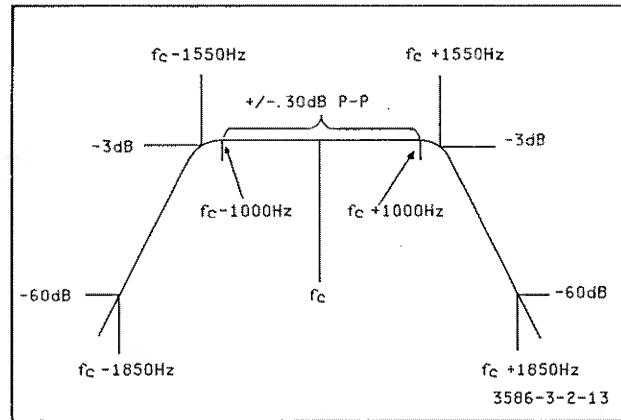

Figure 3-2-13. Approximate Selectivity Curve For The 3100Hz Bandwidth.
**3-2-89. 3100Hz (Option 003).** The approximate selectivity curve of the 3100Hz Bandwidth is illustrated in Figure 3-2-13. When selected, local oscillator feedthrough limits the dynamic range at Entry Frequencies greater than 5kHz. The 3100Hz Bandwidth is used in both the CCITT (-hp- 3586A) and Bell (-hp- 3586B) versions of the instrument. While this Bandwidth is useful for general purpose applications, it is especially valuable when troubleshooting problems in telecommunications systems. The bandwidth of a message channel is 3100Hz. Measurements of message channel signals at audio frequencies are usually made with wide-band instruments. As a result, the frequency response is extremely flat across the 3100Hz bandwidth of the message channel. Even though the measuring instruments have a wide bandwidth, only the power in the 3100Hz message channel is measured since the line, carrying the message channel, is somewhat selective. When a message channel is translated to some high level in the FDM hierarchy, it is difficult to measure its level precisely because of the nearness of the adjacent channels. Most filters that are flat enough to pass all components of the signal unattenuated cannot adequately discriminate against adjacent channel signals. Likewise, filters with good adjacent channel rejection also discriminated against the signals near the edges of the bandpass. The extremely flat and selective 3100Hz bandpass filter in the -hp- 3586A/B is an exception (see Figure 3-7-13). Using this filter, very accurate level measurements of message channel signals can be made. More important, all measurements (impairment as well as level) of message channels at high frequencies in the FDM hierarchy will correspond to similar measurements made on the same signals at different locations where the message channel is at audio frequencies.